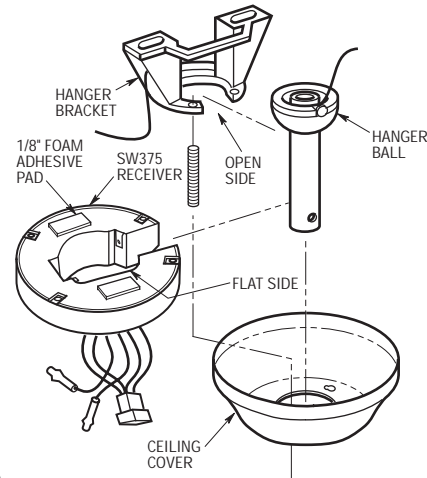

Figure 15
- 20. Position the receiver (supplied with the SW330 Remote Control or SW350 Wall Control) by passing the opening in the receiver over the downrod (Figure 15).
- 23. Turn the receiver so that the flat side aligns with the open side of the hanger bracket (Figure 15). Fold and position the wires into the space above the hanger ball and into the outlet box.